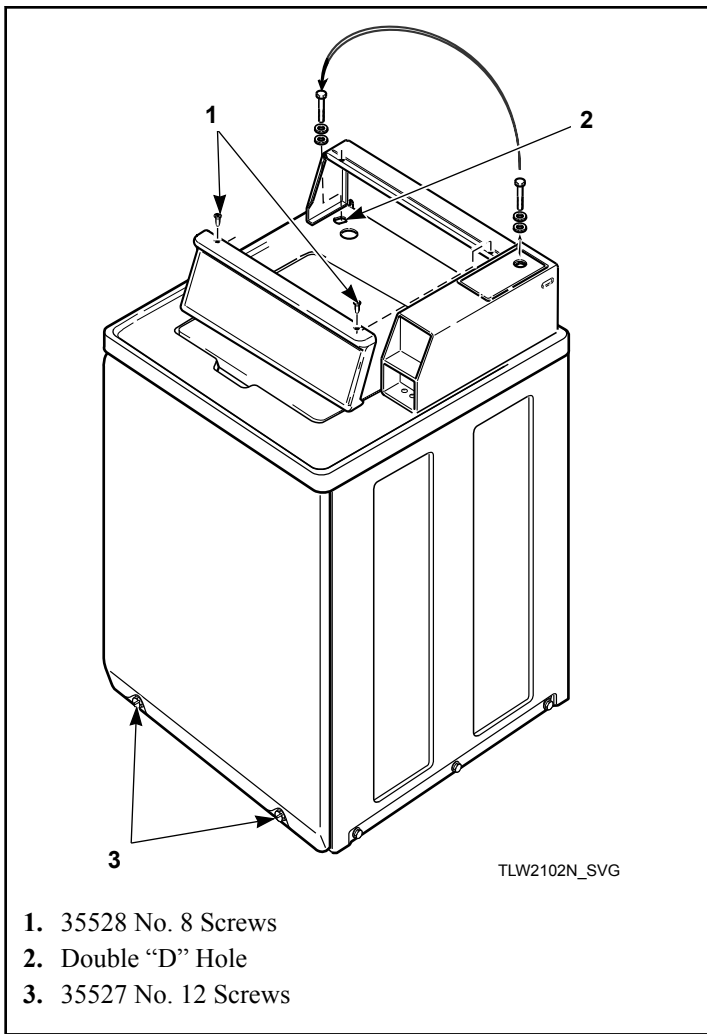

Figure 23
- Remove the Phillips head screw from service door (refer to *Figure 23*).